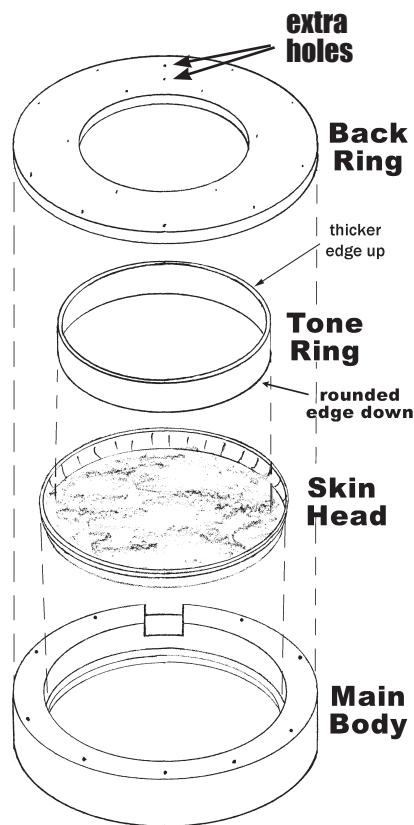

FIG. 16
**IMPORTANT:** Take care to orient the parts correctly! (fig. 16) The two extra holes in one part of the back ring should be centered over the large slot in the main body. Also, the label on the skin head looks best when centered under the strings.